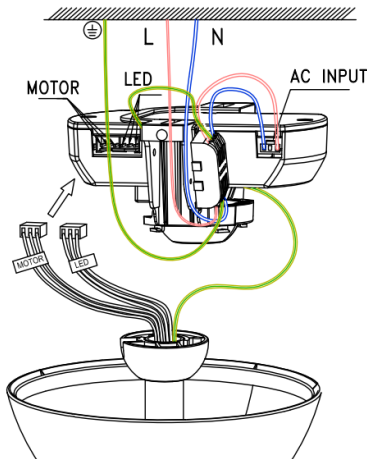

Fig 7.1
See Fig 7.1
- Slide receiver into position in the hanging bracket making sure the AC input connector on the receiver is aligned with the AC port on the receiver. Refer Fig 7.1 on page 8